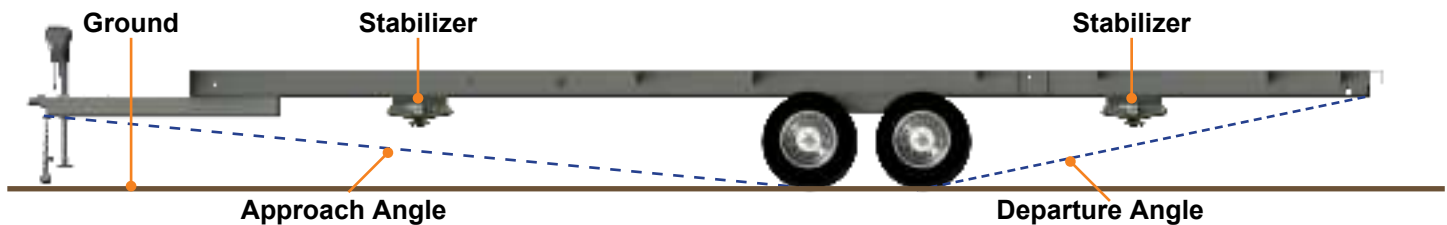

Fig.1
2. To measure approach and departure angle, run a string line from the meeting point of the tire and ground up at an angle to the lowest point on the front and rear of the trailer. These string lines are shown as dotted lines (Fig. 1).